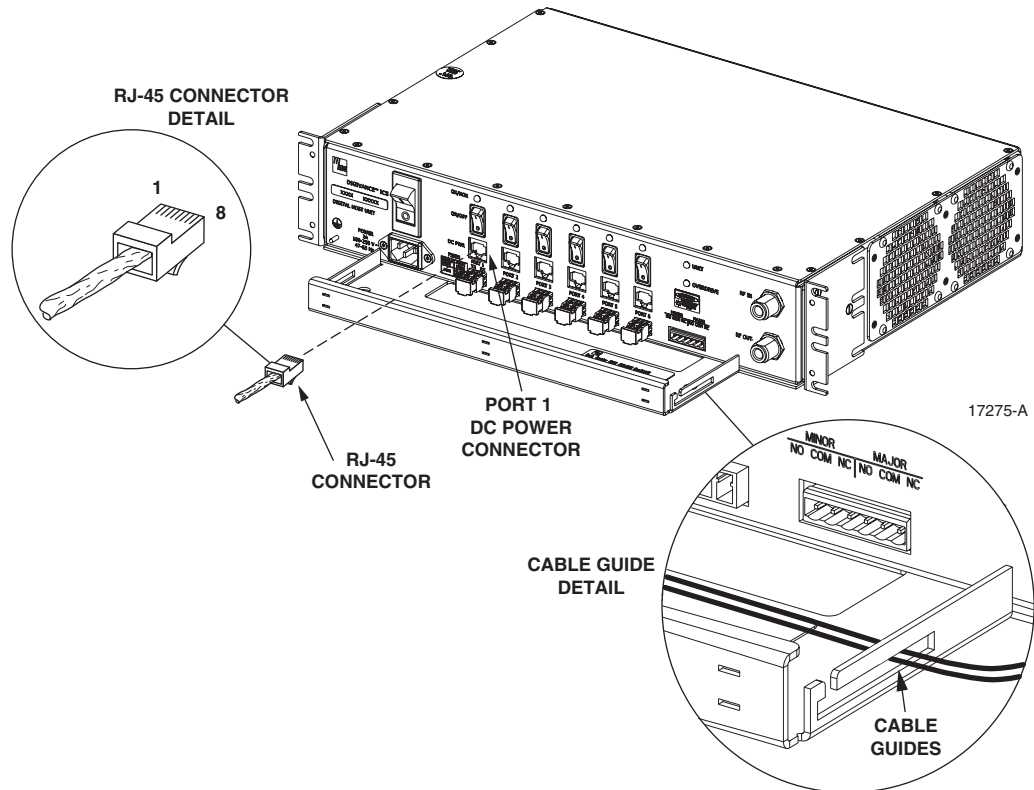

Figure 22. 48 VDC Power Cable Connection
5. Connect the DC power cable to the DHU port 1 DC PWR jack as shown in Figure 22.
6. Place the DC power cable within the cable guides provided (see Figure 22) and then dress and secure the cable at the DHU per standard industry practice.